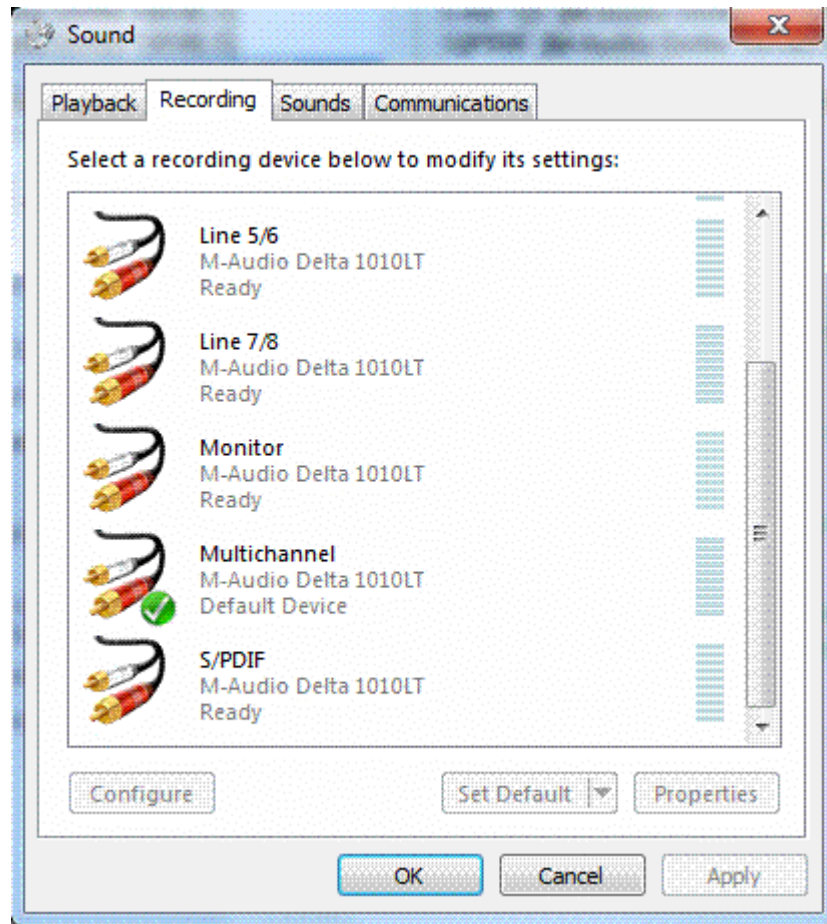

Figure F4. Sound dialog Recording tab.
- Now select the Recoding tab in the Sound dialog. The Dialog should appear as shown in Figure F4.